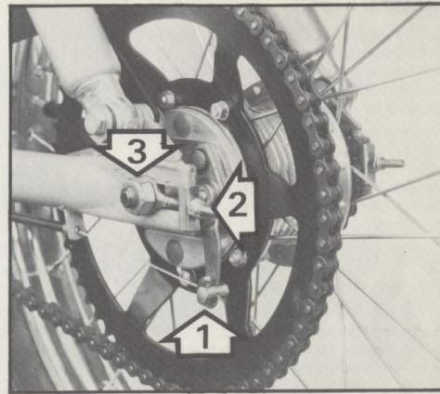

Fig. 14
- To disconnect the brake cable, push the brake arm (1, Fig. 14) forward and unhook the cable stop without unscrewing it.
- Loosen wheel nuts (3,) and disengage the chain tensioners (2) without changing their adjustment.